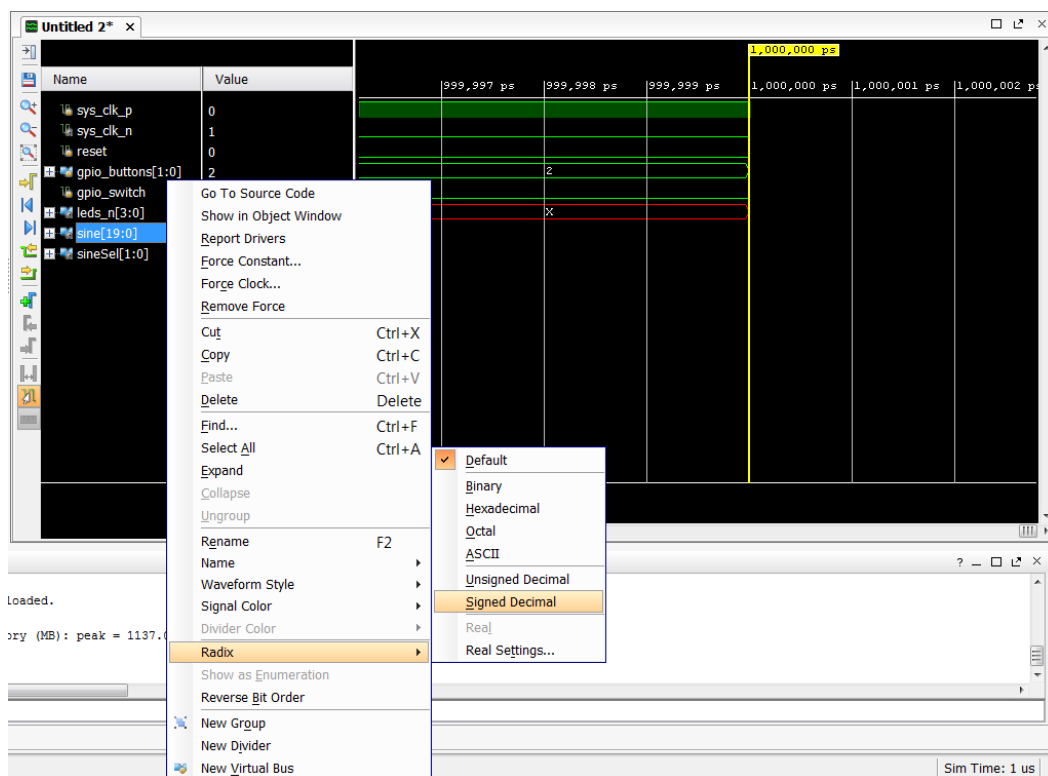

Figure 17: Enable Radix
- Right click to open the popup menu again, and select **Radix > Signed Decimal** as shown in Figure 17.